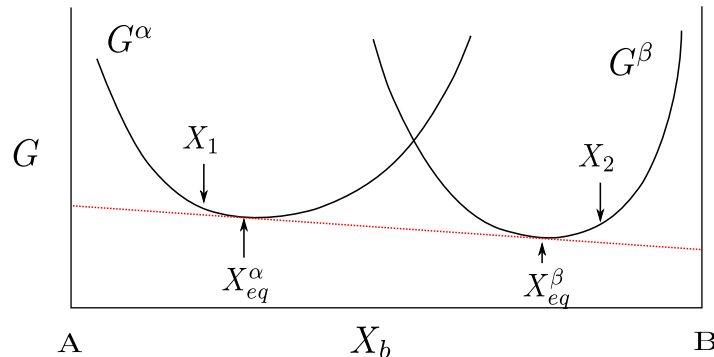

Figure 2: Free energy curves for a model A/B alloy.
- Consider two binary alloys with compositions $X_b = X_1$ and $X_b = X_2$, shown in Figure 2 along with the free energy curves for α and β phases formed by this alloy. Draw the composition profile across the interface shortly after the two alloys are brought into contact with one another, assuming that the interface is in "local equilibrium", i.e. the interface compositions are given by the equilibrium phase diagram. Describe the direction in which you expect the B atoms to diffuse on each side of the interface.